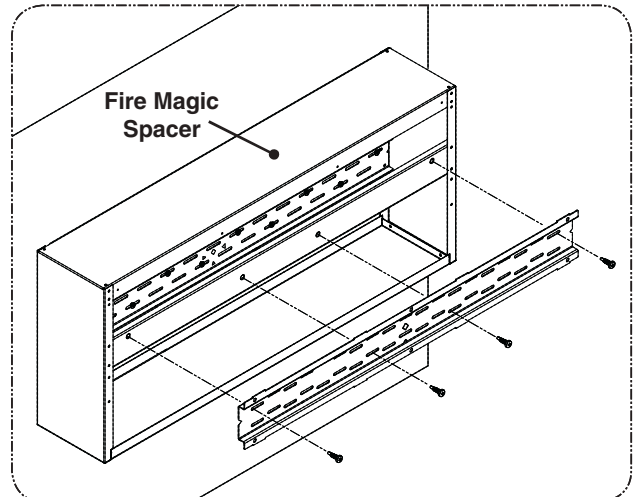

Fig. 13-1 Install wall bracket to F.M. Spacer
2. Using a medium Phillips screwdriver and the large 1/4-20 screws supplied with the spacer, secure the bracket in place. The spacer has pre-drilled holes. See Fig. 13-1.